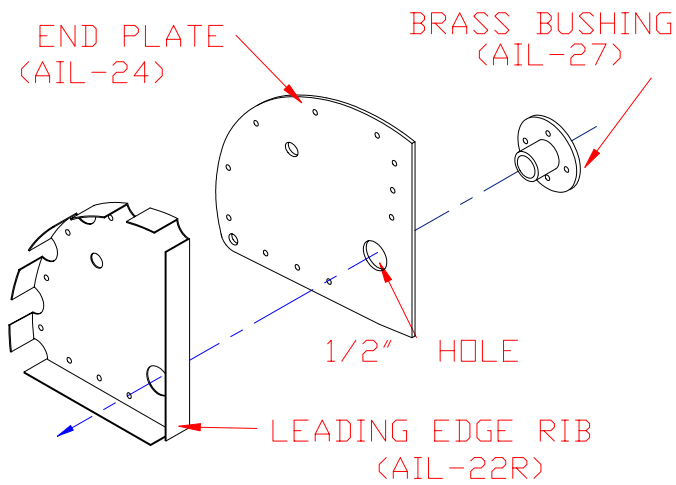
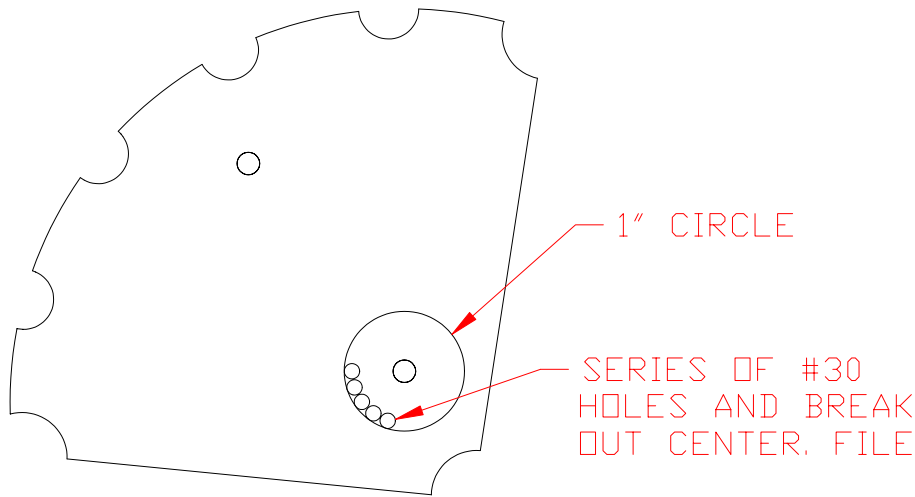
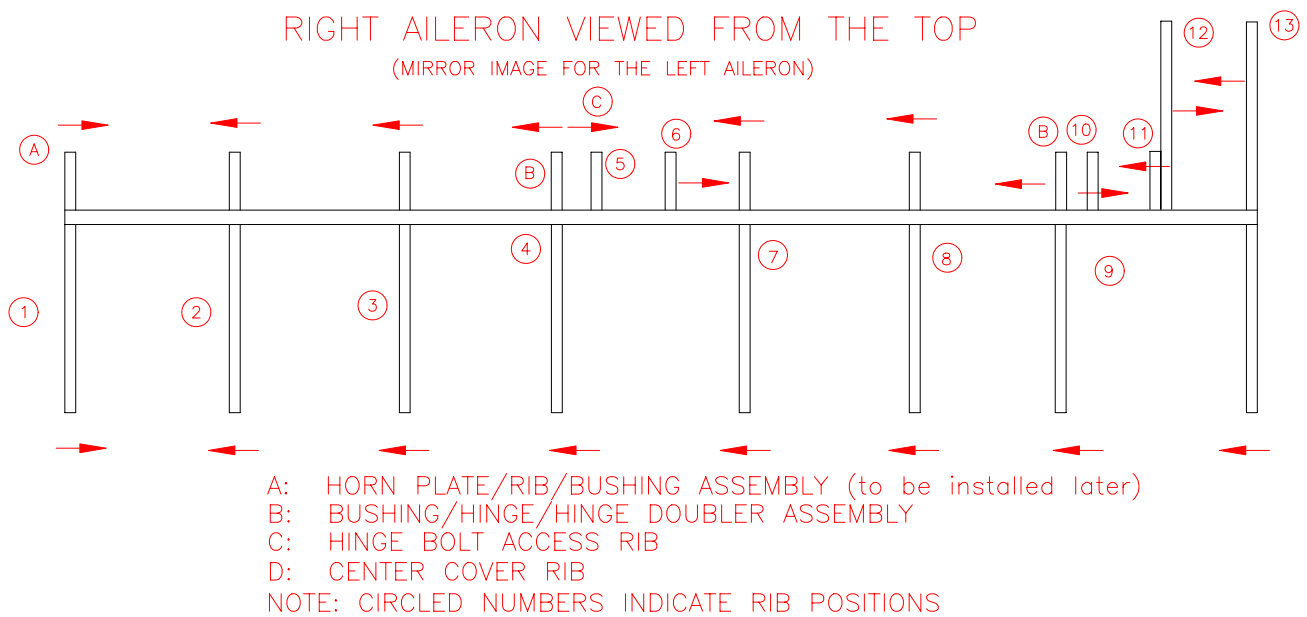

Figure 7.1.6
Figure 7.1.7
Figure 7.2.1
- 9) Disassemble, debur and chromate the mating surfaces together with 1/8" avex rivets (RV-1410). In the #11 holes, use a 3/16" avex rivet (RV-1613). In the Brass Bushing, use four 1/8" CS rivets (RV-4412). Figure 7.1.6. **NOTE:** This assembly will be used at rib station #9. Check Figure 7.2.1 for correct placement and flange direction.
- 10) Prepare two left Leading Edge Ribs for bolt access at station location 5 and 10. Check Figure 7.2.1 for correct location. Cut a 1" hole centered on to the tooling hole. This can be accomplished with a 1" hole saw or a series of #30 holes and a half round file. See Figure 7.1.7.
1) Layout all the parts for a right Aileron as in Figure 7.2.1. Make sure the rib flanges are facing the correct direction. The Main Aileron Ribs (AIL-23) are symmetrical and therefore have no lefts and rights. The Leading Edge Ribs (AIL-22L & AIL-22R) are not symmetrical so make sure you have the correct rib facing the correct direction. The long flange of the Leading Edge Rib goes against the Spar.
- 6) Repeat steps until all the Leading Edge Ribs are drilled. Ensure proper flange direction as in Figure 7.2.1.